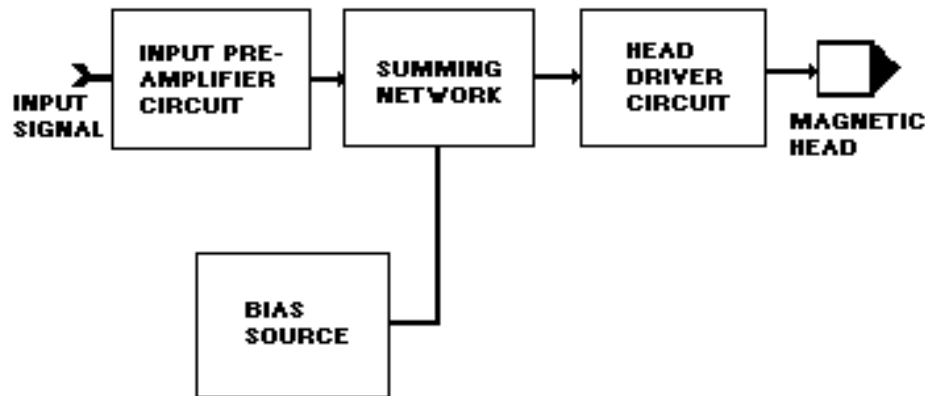

Figure 5-1.—Direct record electronics.
Direct record electronics record input signals onto magnetic media just as the signals appeared at the recorder's input. The only processing an input signal receives is the adding of a bias signal. The added bias signal makes sure the signal stays away from the *steps* of the magnetism curve. Figure 5-1 shows a basic block diagram of a recorder's direct record electronics.
- Q-2. The head driver circuit in a tape recorder's direct record electronics component (figure 5-1) performs what function?*